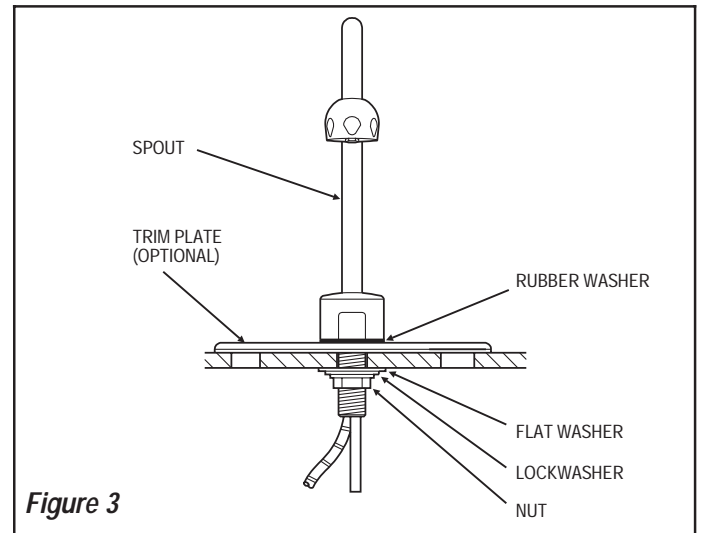

Figure 3
Step 2 — Install Faucet Assembly (Figure 3)